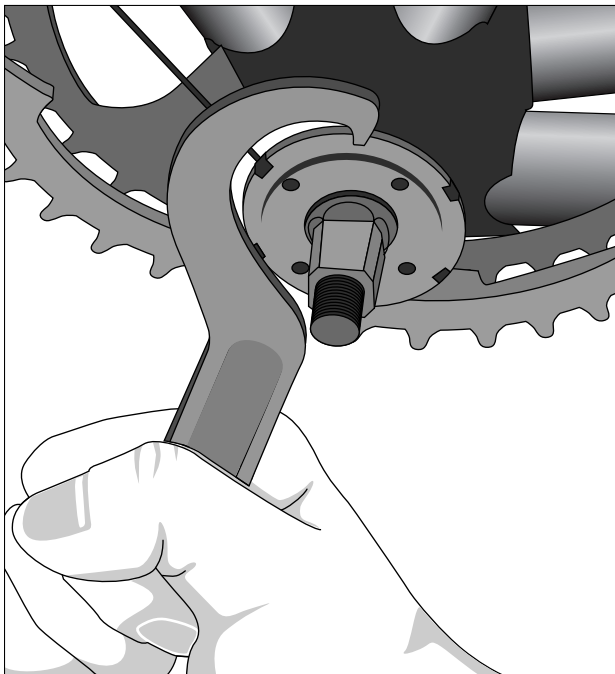

Figure 13-14:
2. On the left side of the bike, you'll see a lock ring with grooves cut into it. Unloosen the lock ring in a counterclockwise direction by using a specialized tool called a C-wrench (shown in Figure 13-14) or lock-ring wrench.